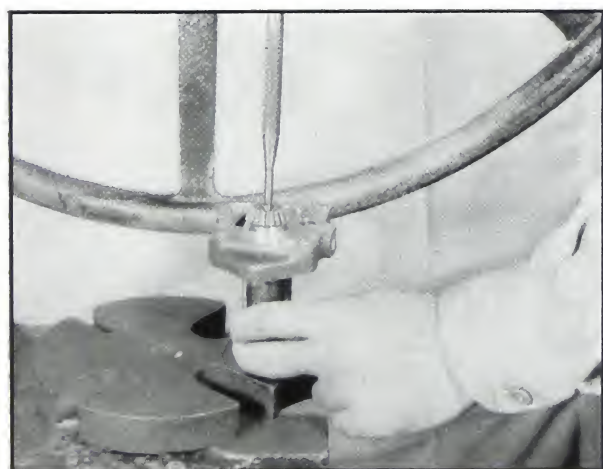

Fig. 5-285. Press out drive shaft
7. Press the drive shaft from the drive gear and No. 2 gear pump cover. Fig. 5-285.